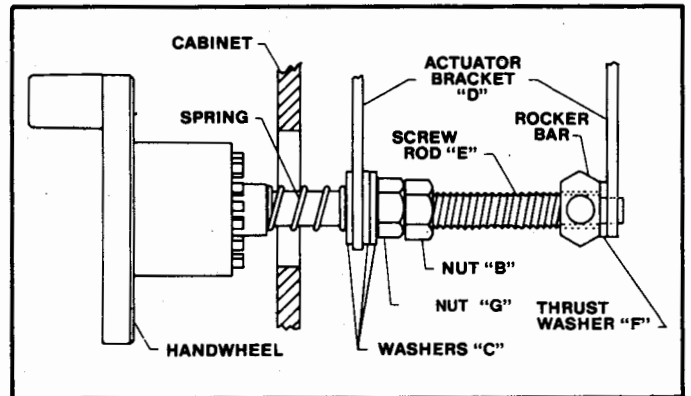

Fig. 52
After each 5 hours of operation the blade raising mechanism and tilting mechanism should be checked for looseness, binding or other abnormalities. With the saw disconnected from the power source, turn the saw upside down and alternately pull upward and downward on the motor unit and observe any movement of the motor mounting mechanism. Looseness or "play" in the blade raising screw rod (E) Fig. 52, should be adjusted as follows:
1. Loosen nut (B) Fig. 52
2. Adjust nut (G) until it is "finger-tight" against washers (C) and bracket (D); then back off nut (G) 1/6 turn.
3. Tighten nut (B) while holding nut (G)
Place a small amount of dry lubricant such as graphite or silicon on screw rod (E) Fig. 52, at washers (C) and thrust washer (F). Do not oil threads of screw rod (E). Screw rod (E) must be kept clean and free of saw dust, gum, pitch and other contaminants for smooth operation.